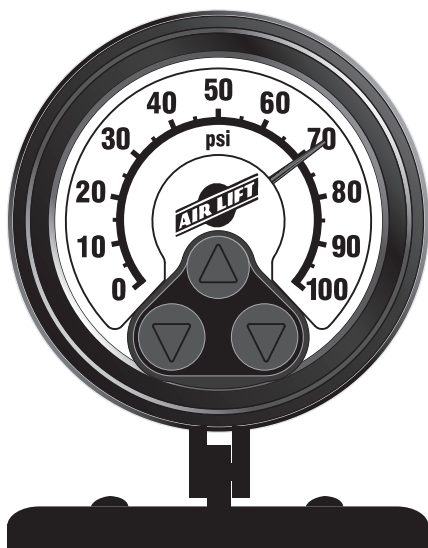

fig. 3
1. Install the gauge pod (figs. 3, 4 & 5). Select a convenient mounting location that has a sturdy, rigid surface. The bottom edge of the dash on either side of the steering wheel is a good location. Attach the gauge pod to the selected location with the black self-tapping screws.